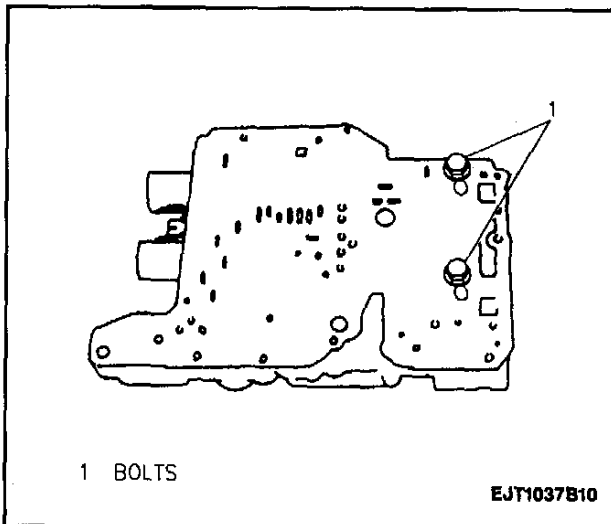

Figure 103—Installing Separator Plate and Gasket to Lower Valve Body (03-72LE, 4-Speed)
Figures 103 through 112
1. Place separator plate and new gasket to lower valve body, temporarily install to bolts (Figure 103).